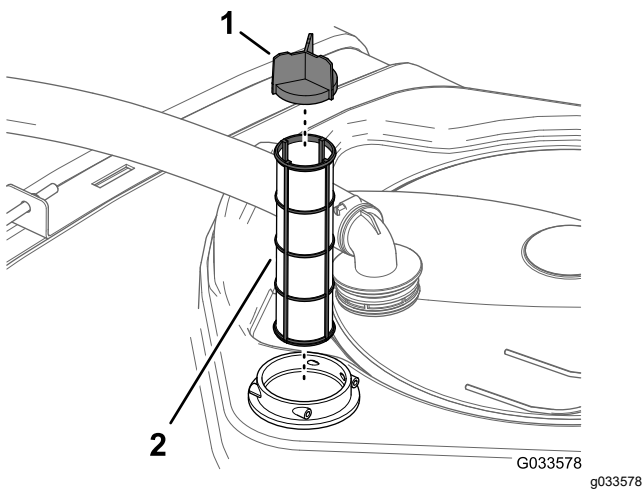

Figure 87
- Pull the suction strainer out of the filter housing in the tank (Figure 87).